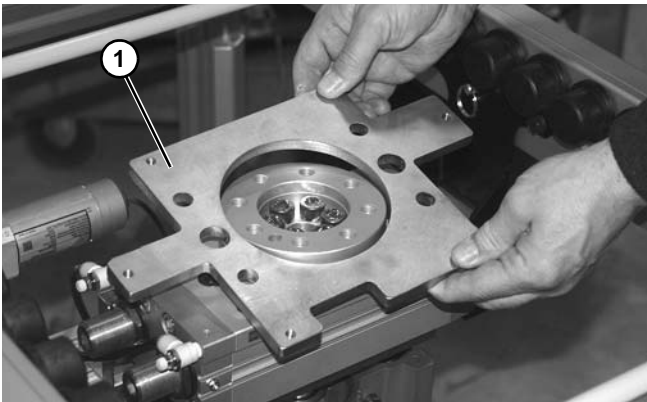

Figure 106
10. Remove rotation plate (**Figure 106, item 1**), making note of the orientation of the plate before removing.